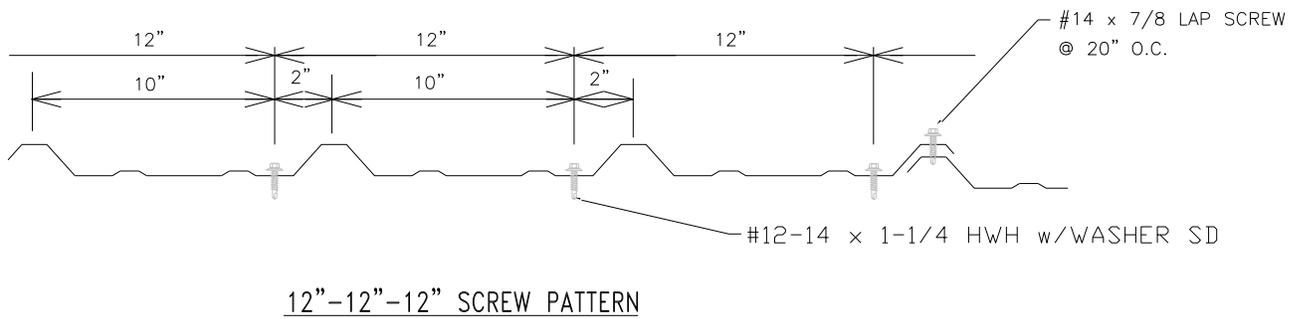

Figure 1. PBR Panel Fastener Pattern Detail (Minimum 26 Gauge Panel)
**Panels:** The PBR panel metal roofing panels shall be secured to the minimum 16 gauge steel purlins as specified in Table 1 and in accordance with this section. Refer to Figure 1 for an illustration of the required fastener pattern.
**Attachment of Metal Roof Panels to Steel Purlins:** The PBR panel metal roof panels shall be secured to the roof framing with minimum No. 12-14 x 1 ¼" long, HWH self-driller screws with integral. The fasteners shall be long enough to ensure a minimum penetration of ¼" below the light gauge steel purlins. A line of fasteners are to be located along each steel purlin with a 12"-12"-12" pattern as specified in Table 1. Refer to Figure 1 of this evaluation report. The fasteners shall be long enough to penetrate a minimum of 3 pitches of thread below the steel purlin.